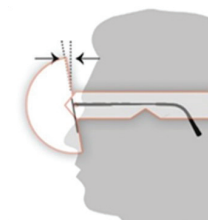

FIG. 20
**Measure pantoscopic tilt angle:** The pantoscopic tilt is the vertical angle formed between the frame front and the patient's optical axis (Fig. 20). To measure this angle, use an inclinometer such as the one provided by Signet Armorlite. Place the ruler at a horizontal (180 degrees), then rotate the oscillating